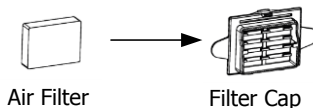

Fig. 18-4
(1) Attach the air filter to the filter cap, as shown in Fig. 18-4.